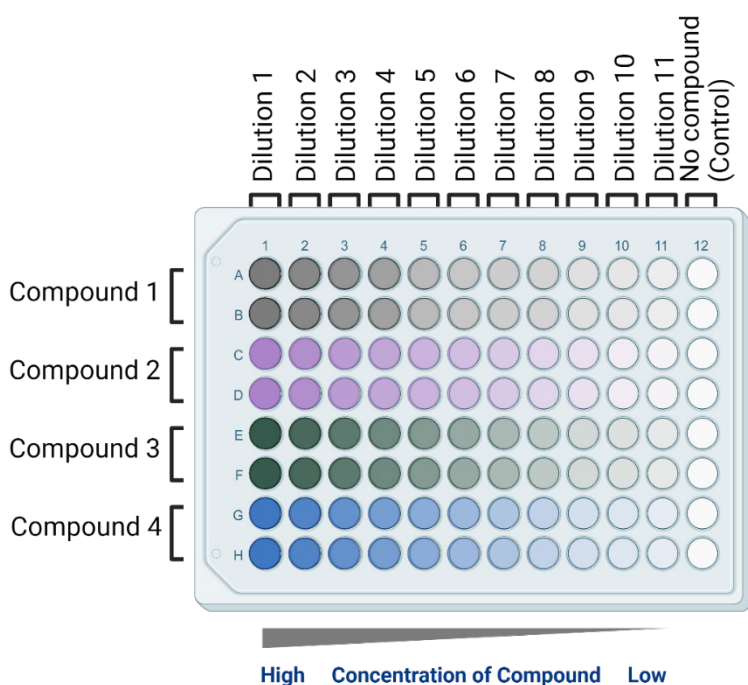

Figure 9. Compound Assay Plate Map – Antagonist
2. Using a 12-channel pipette, add 5 μ L of each 22X antagonist compound serial dilution in duplicate to the designated compound rows (e.g., Compound 1 in rows A and B; Compound 2 in rows C and D). Repeat for the remaining compounds as indicated on the compound assay plate map (Figure 9).